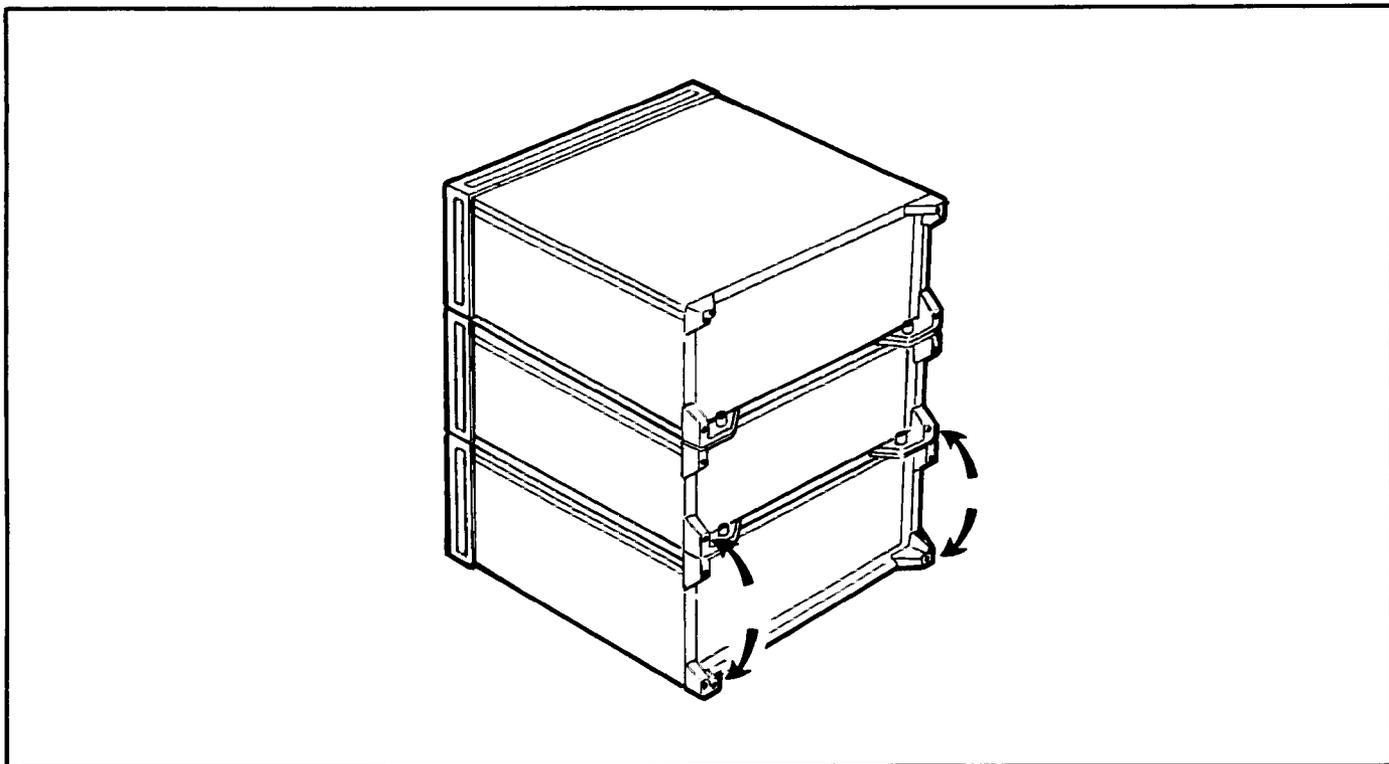

FIGURE 2-3. LOCK-FEET INSTALLATION
4. Exchange the preselector's bottom rear lock feet with the spectrum analyzer's bottom rear lock feet, as in Figure 2-3.